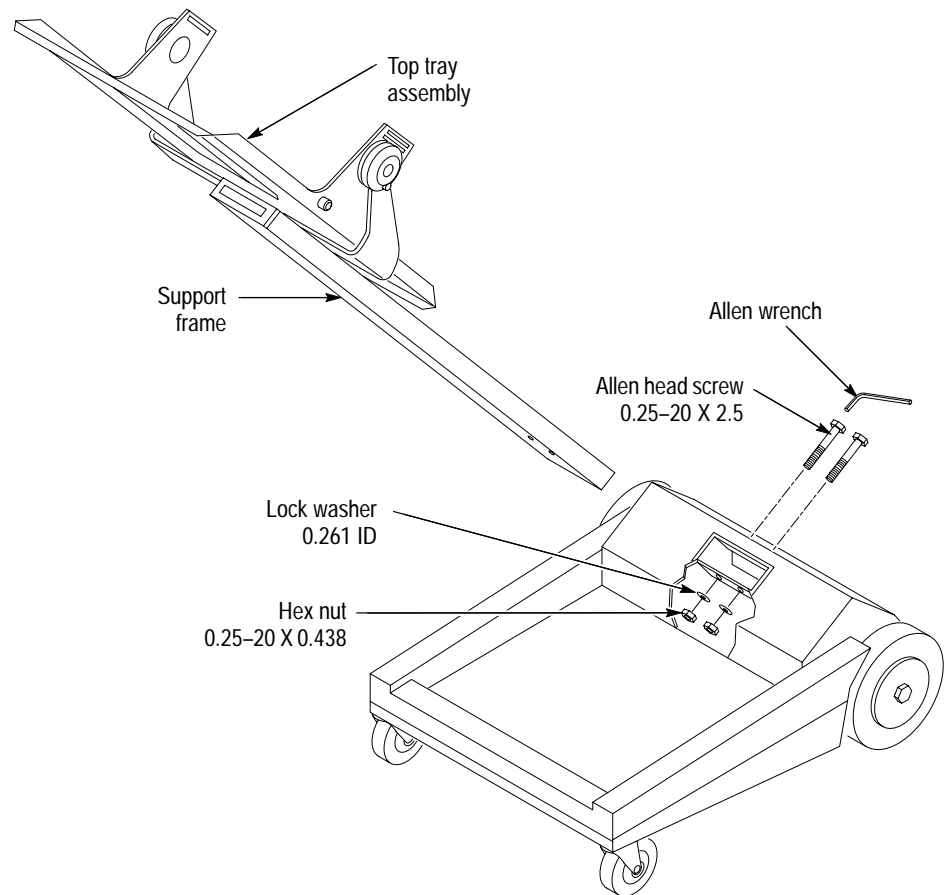

Figure 5: Installing the support frame
Use the following procedure to install the support frame (with tray assembly) into the cart base. Use Figure 5 as a guide.
1. Remove all instruments from the cart. Tilt the top tray so it is parallel to the support frame. See Figure 5 on page 7.